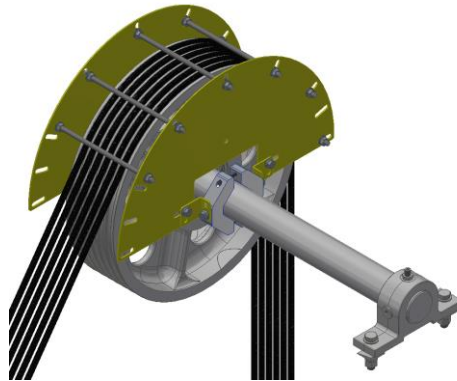

**Figure 7: Rope Retainer Threaded Rod Placement**
- Insert these assembled rods into the side plates. Run the nuts out to contact the side plates. Make sure the rods extend an equal distance out of each side plate as shown below in Figure 7. Take care to maintain the parallelism (squareness) of the plates with each other.